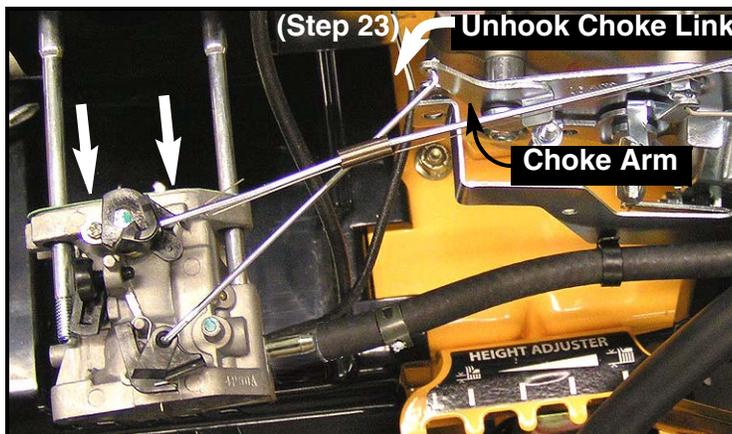

FIGURE 10
D. Carefully, so as not to bend the links, slide the carburetor off of the mounting studs sufficiently to unhook the choke link from the choke arm. See Figure 10.